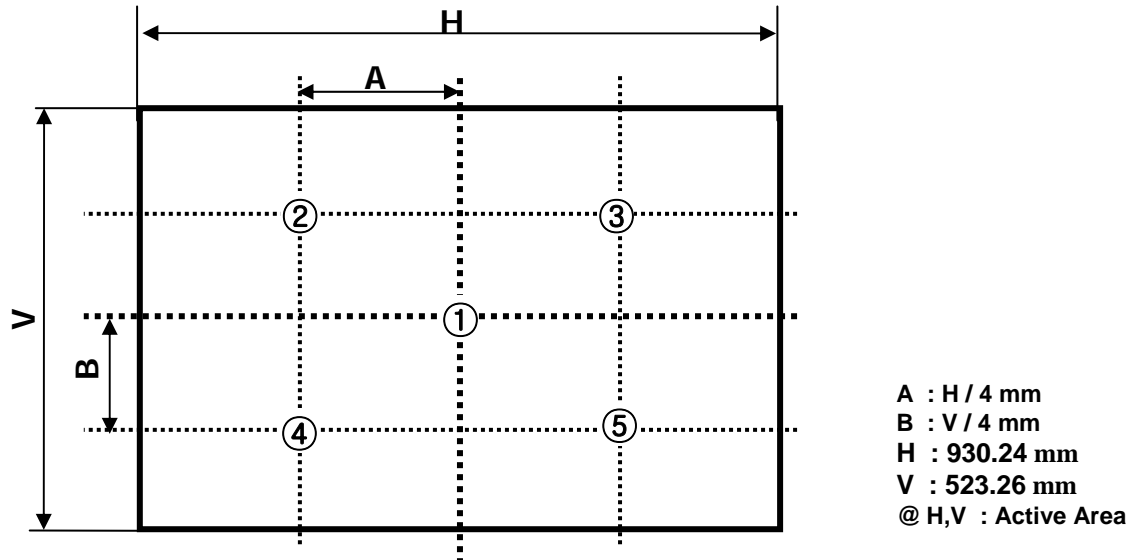

FIG. 2 5 Points for Luminance Measure
Measure Position : 5-point. See FIG. 2 for more information
2. Surface Luminance( $L_{WH}$ ) is the luminance value measured after the unit has been turned on for 30min at an approximate 50cm distance from the center 1-point of LCD surface as all pixels displaying white. See FIG. 2 for more information
For more information, see the FIG. 2.